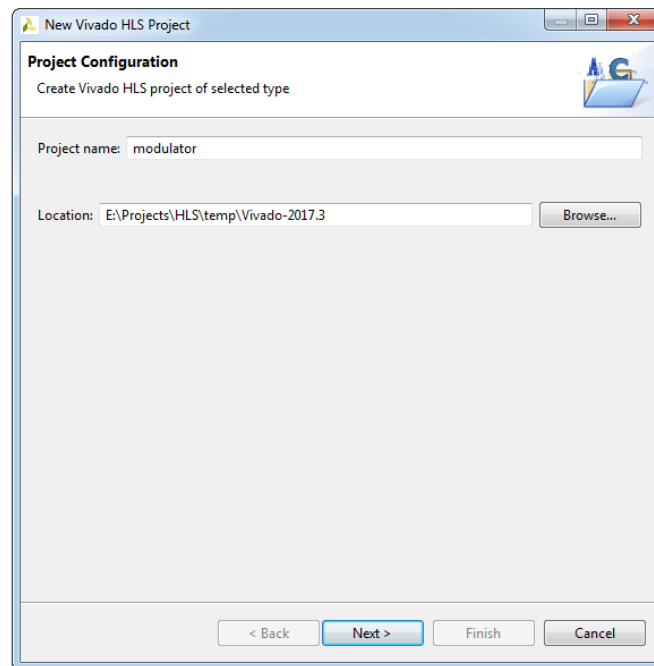

Figure 2.2: Create a New Vivado Project dialog box
- In the **Location** field click **Browse** button to specify the location where project data will be stored, see Figure 2.2.
When Vivado HLS creates a new project, it also creates a directory with the name and at the location that we specified in the GUI (see Figure 2.2). That means that the all project data will be stored in the project_name (**modulator**) directory.